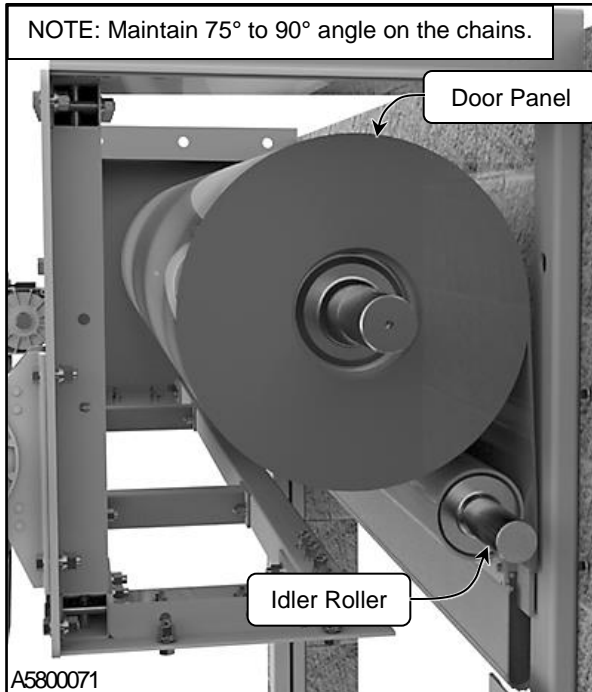

Figure 25
15. Check and adjust the routing of the bottom bar and the door panel over the idler roller. (See Figure 25)